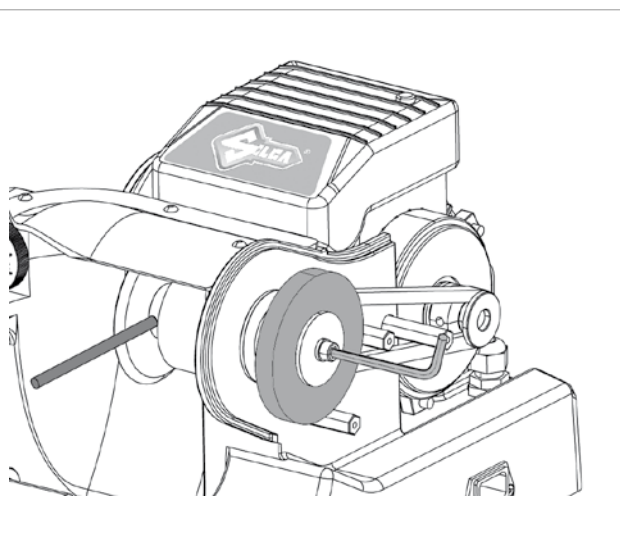

Fig.28
- 2) Slot the locking rod (provided) into the hole (F1) of the cutting tool shaft (Fig.28).
- 3) Use the Allen wrench to loosen the screw holding the brush in place (Fig.28).
- 6) Place the cover (P).